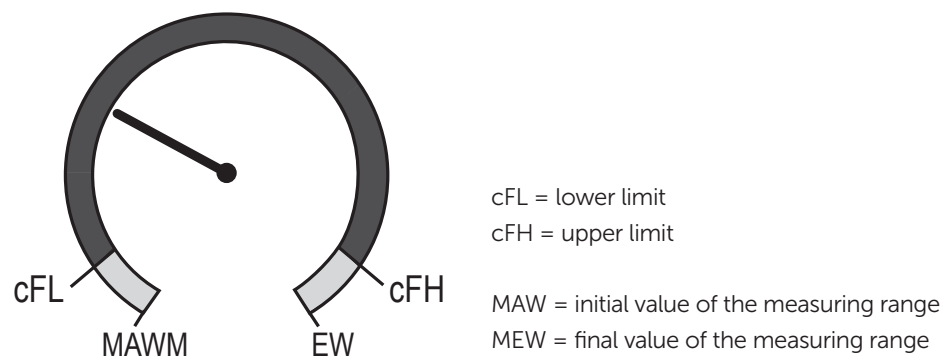

Fig.2: Colour setting window function
- Colour change from red to green or vice versa (Fig.2):